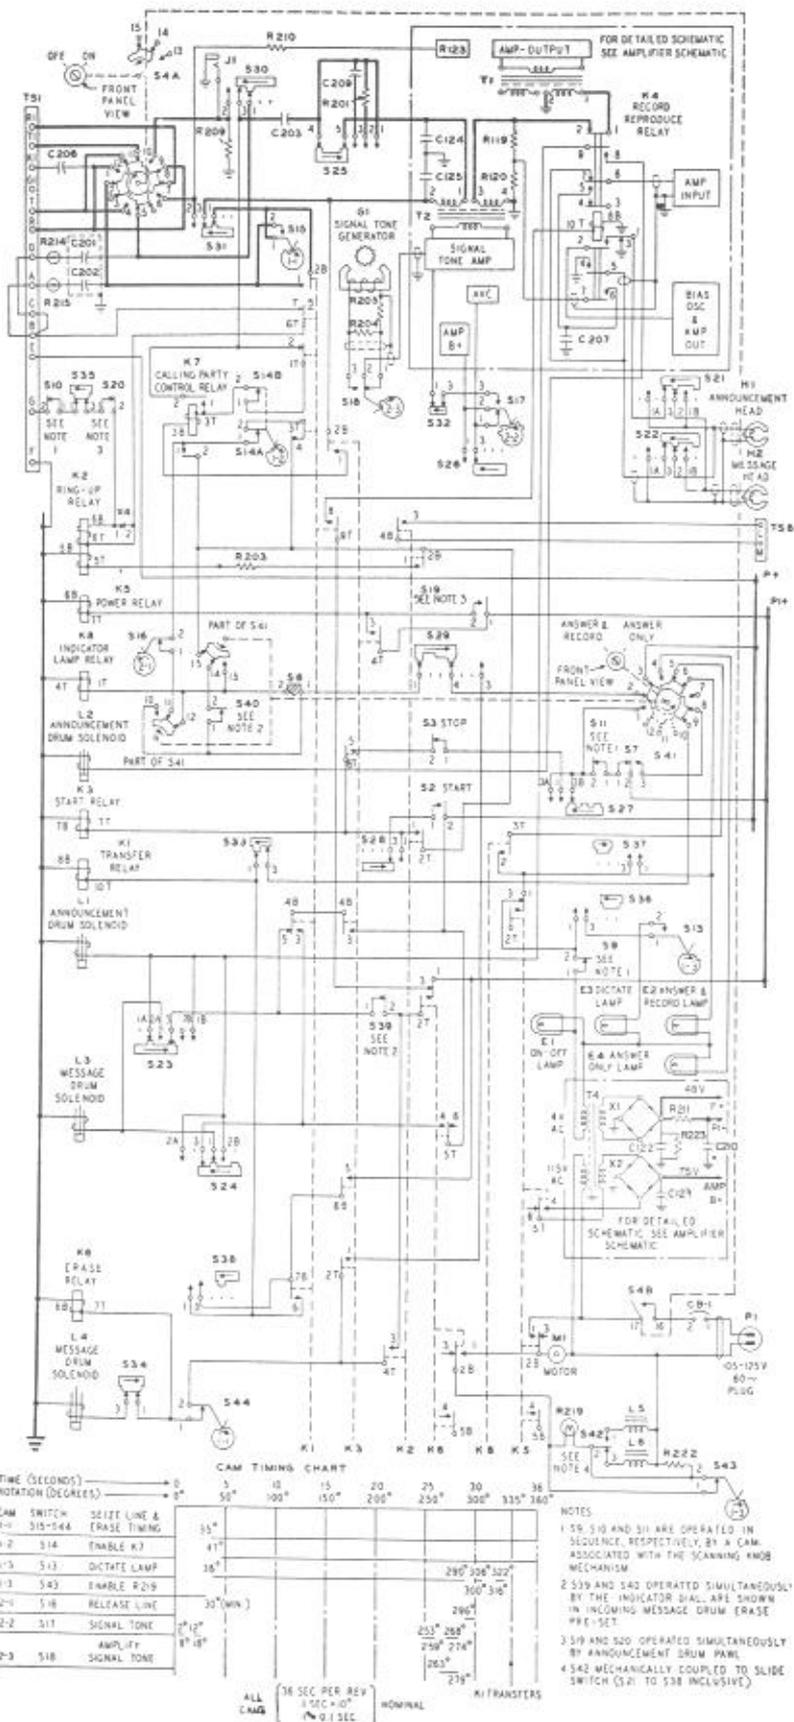

Fig. 14—IBA Telephone Answering Set—Control Schematic
- 5.128 Bias oscillator and AVC tubes are activated when contacts 3T and 4T of the K4 relay open (see Fig. 14).
5.143 Switch positions for Fig. 14 are as follows: